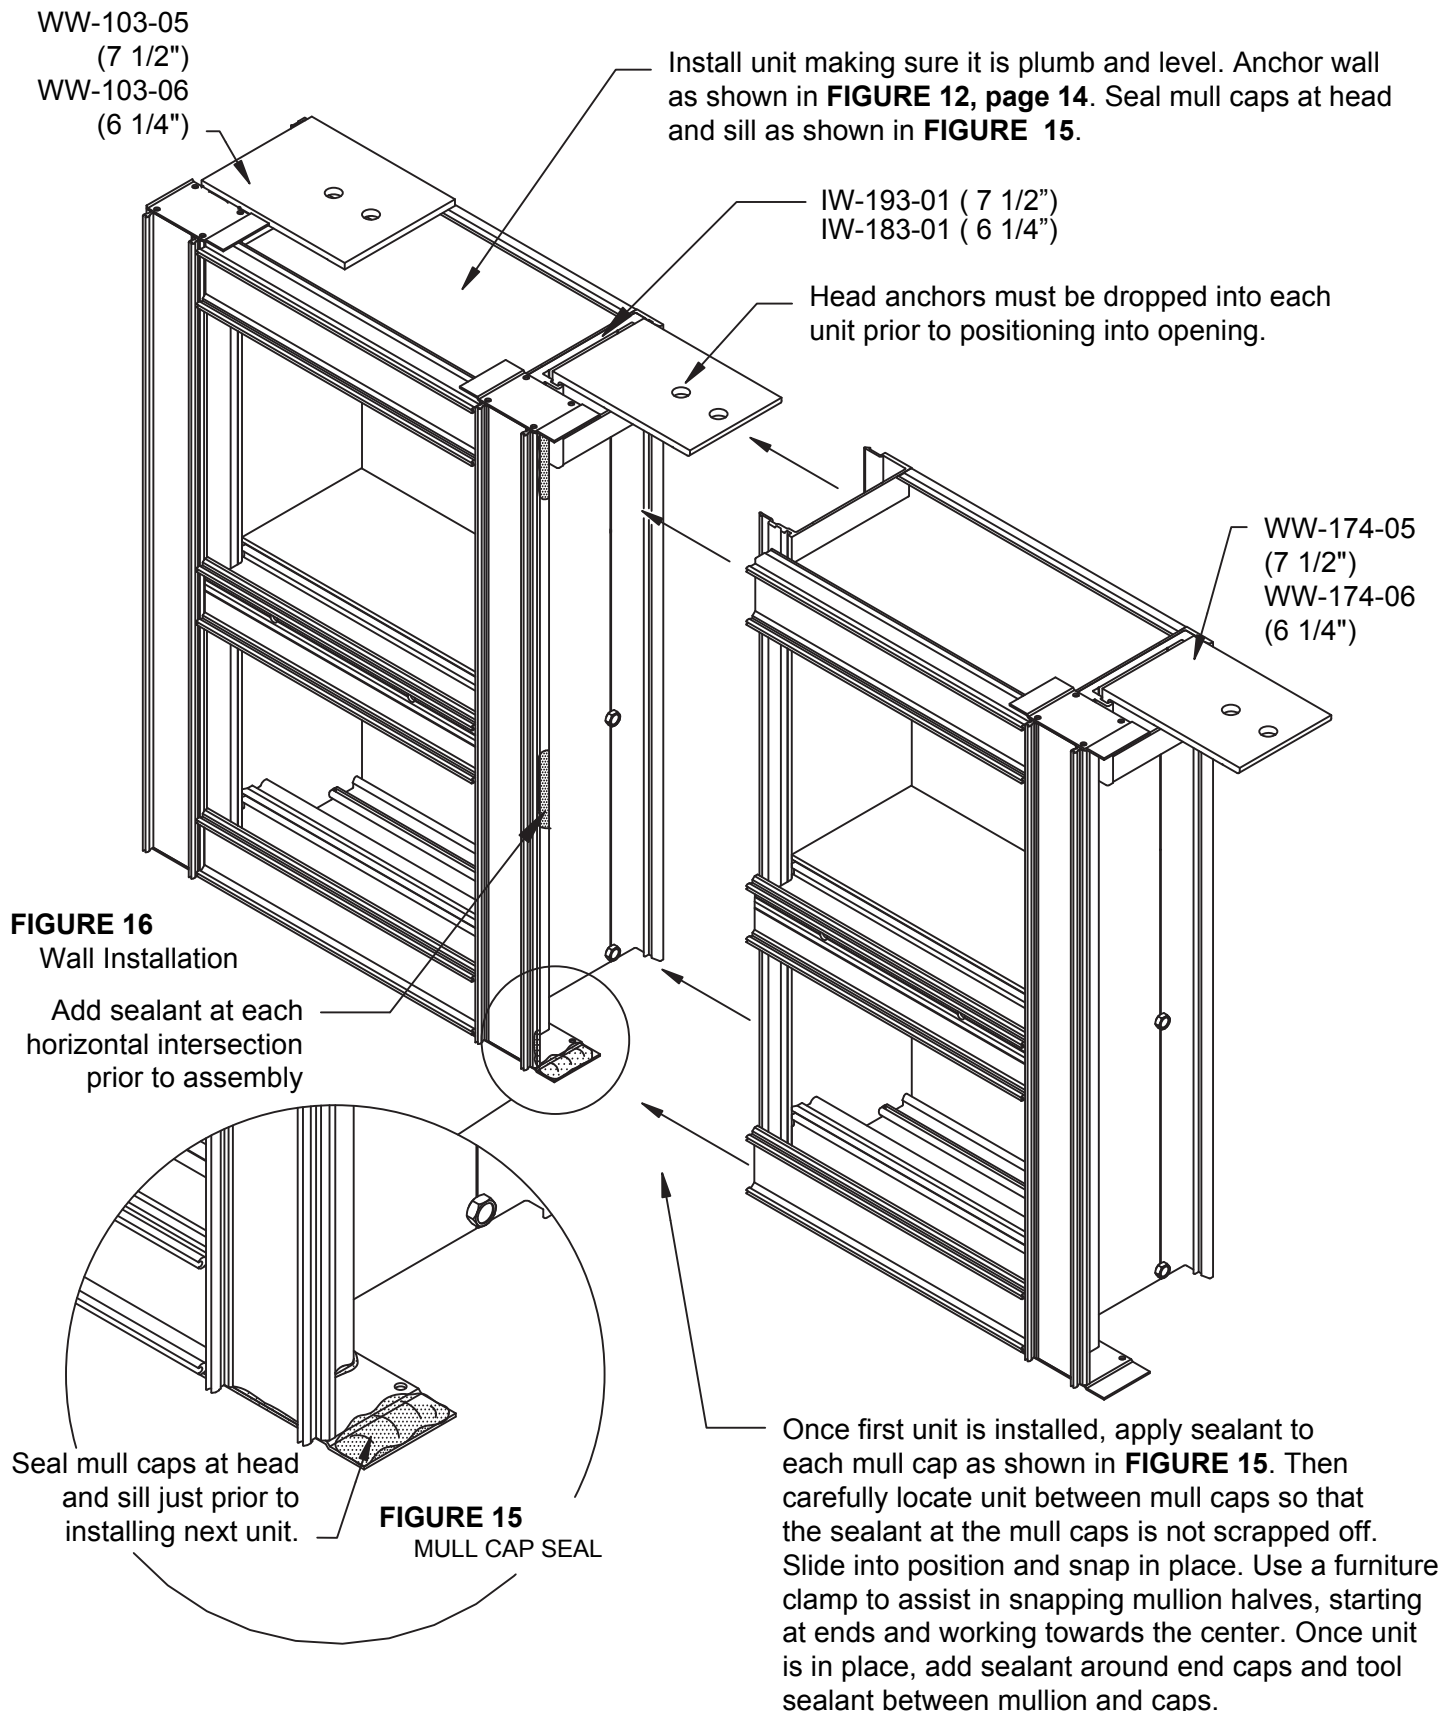

**FIGURE 12**
- 3.1 Reliance-IG SS sill member can be anchored to the building condition by either hard fastening directly through the sill member or slide-in mullion anchors that fit inside the vertical mullions. SEE FIGURE 12. If using the slide-in anchors, install into ends of mullions prior to erecting the frame.
- 3.2 Reliance-IG SS head member must be anchored to the building condition using the slide-in anchor that fits inside the vertical mullions. SEE FIGURE 12, page 14.